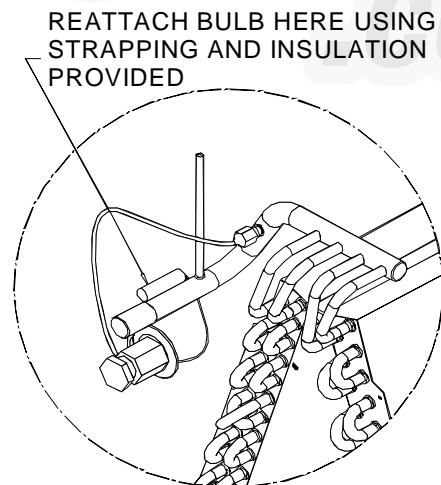

Figure 3
10. Replace sensing bulb to horizontal portion of suction line (Figure 3) just inside cabinet. Place bulb parallel with suction line in the 10 o'clock position. If 10 o'clock position is inaccessible, place in the 2 o'clock position. Secure bulb to line with strapping provided in literature envelope. Insulate sensing bulb to line with self-adhesive insulation provided in envelope.